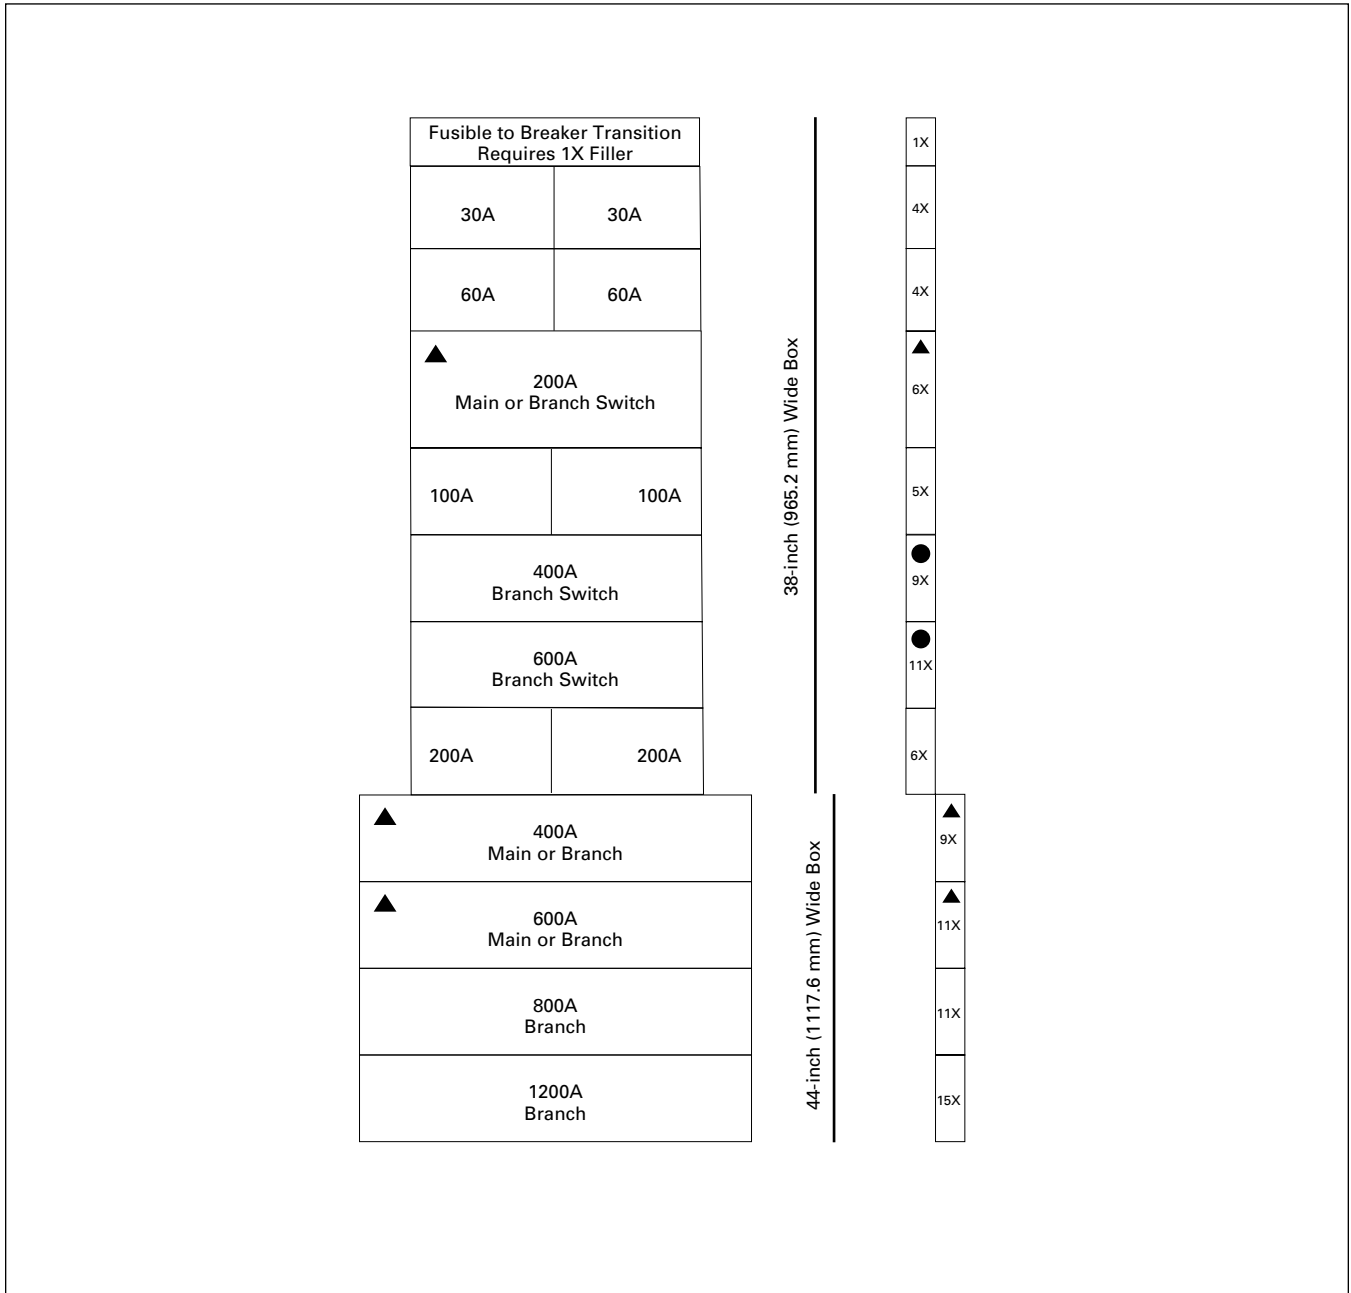

Figure 2-7. Branch and Horizontally Mounted Main Device Layout — PRL4F
- * = Space available for branch devices. For device sizing, see **Figure 2-7** on **Page 2-21**.